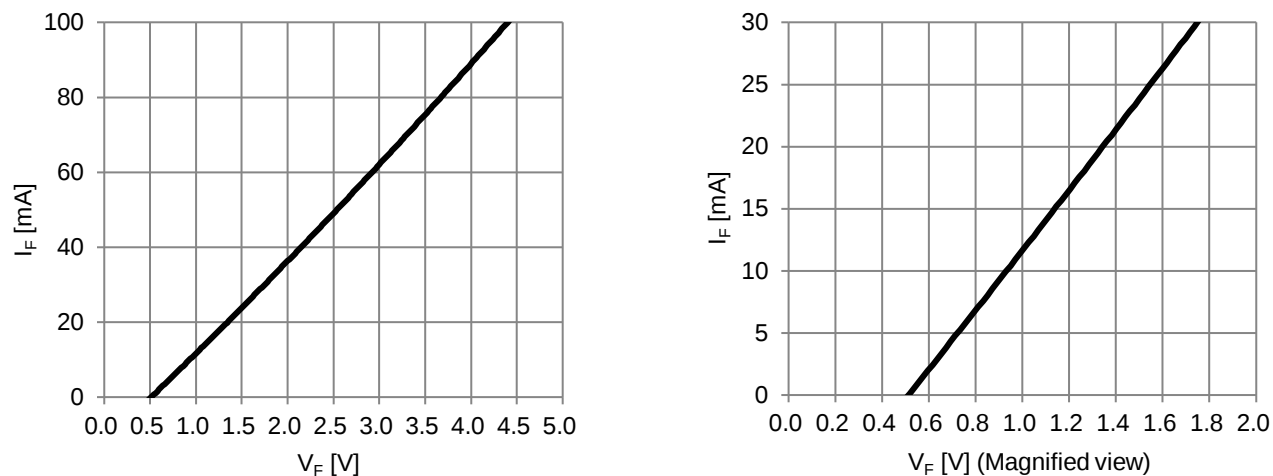

Figure 2. Built-in Bootstrap Diode V_F - I_F Characteristics
- The characteristics of bootstrap diodes are described in Figure 2.